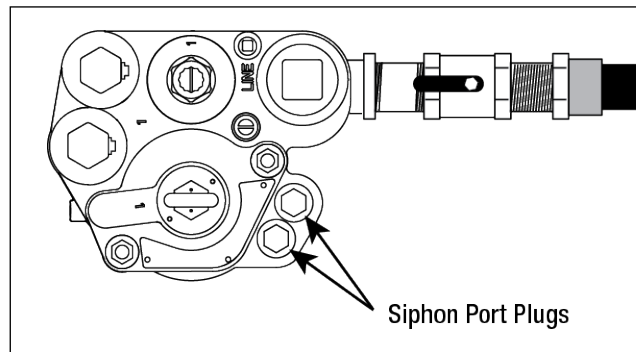

Figure 13. Locating TRJ Siphon Port Plugs
2. Remove one of the siphon port plugs from the STP (see Figure 13).